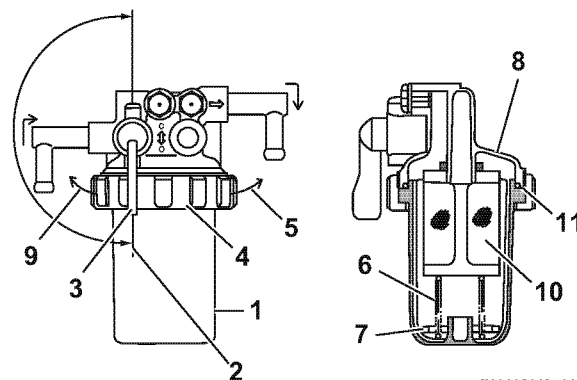

Figure 5-6
1. Position an approved container under the fuel filter/water separator cup (**Figure 5-6, (1)**) to collect the contaminants.
2. Turn the fuel cock (**Figure 5-6, (3)**) to the closed position (**Figure 5-6, (2)**).
3. Turn the retaining ring (**Figure 5-6, (4)**) to the left (**Figure 5-6, (9)**).
4. Carefully remove the cup. Remove the retaining spring (**Figure 5-6, (6)**) and float (**Figure 5-6, (7)**) from the cup. Pour the fuel into an approved container and dispose properly. Hold the bottom of the cup with a shop towel to prevent the fuel from dripping. Wipe up any spills immediately.
6. Inspect the condition of the mesh filter (**Figure 5-6, (10)**). Clean the mesh filter if necessary.
7. Inspect the condition of the O-ring (Figure 5-6, (11)). Replace the O-ring if necessary.
8. Put the float (Figure 5-6, (7)) and retaining spring (Figure 5-6, (6)) inside the cup.
9. Install the cup to the mounting flange (Figure 5-6, (8)) and turn the retaining ring (Figure 5-6, (4)) to the right (Figure 5-6, (5)). Hand-tighten only.
10. Open the fuel cock (Figure 5-6, (3)).